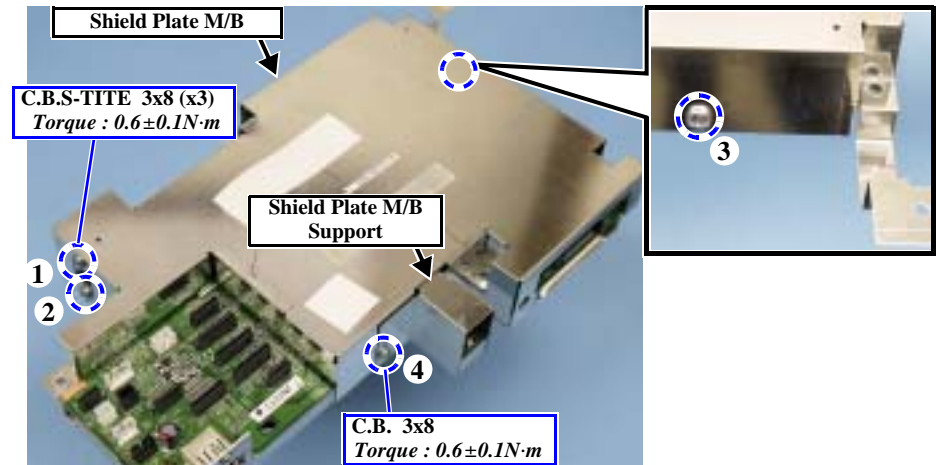

Figure 4-12. Removing the Shield Plate
5. Remove the screw, and remove the Shield Plate M/B Support. (Fig. 4-12)
6. Remove the screws (x2), and remove the Shield Plate. (Fig. 4-12)